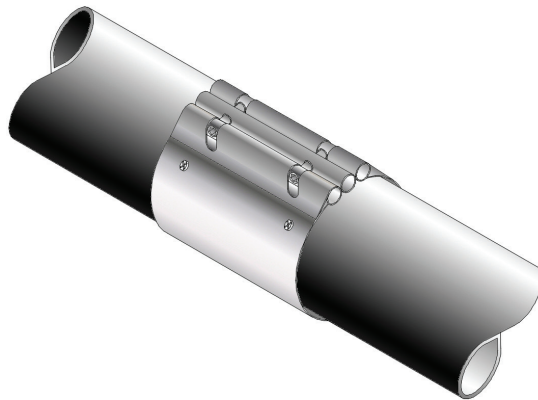

Figure 12. Typical Coupler
4. Install couplers to join emitter tubes and L- or U-tubes (see Figure 12):